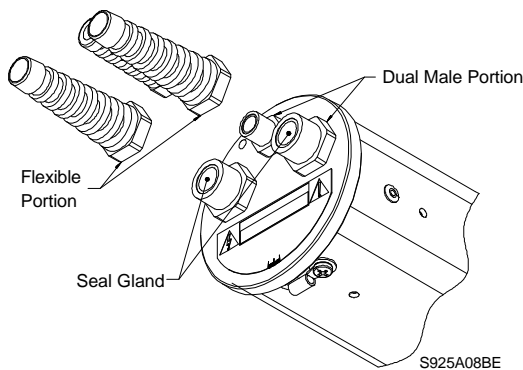

Figure 5: Liquid Tight Fitting Assembly
- The dual-male threaded portion of the three liquid tight fittings, two NPT 1/2-inch and one NPT 3/8-inch, located in the rear of the cradle are provided pre-installed. Do not remove or loosen these parts. They have been installed to a specified torque to prevent entrance of water. The two large fittings are supplied with seal glands for cables with diameters from 4.3 mm (0.17 in) to 11.9 mm (0.47 in). The small fitting will accept cables with diameters from 4.6 mm (0.181 in) to 7.9 mm (0.312 in). See **Figure 5** and **6**.